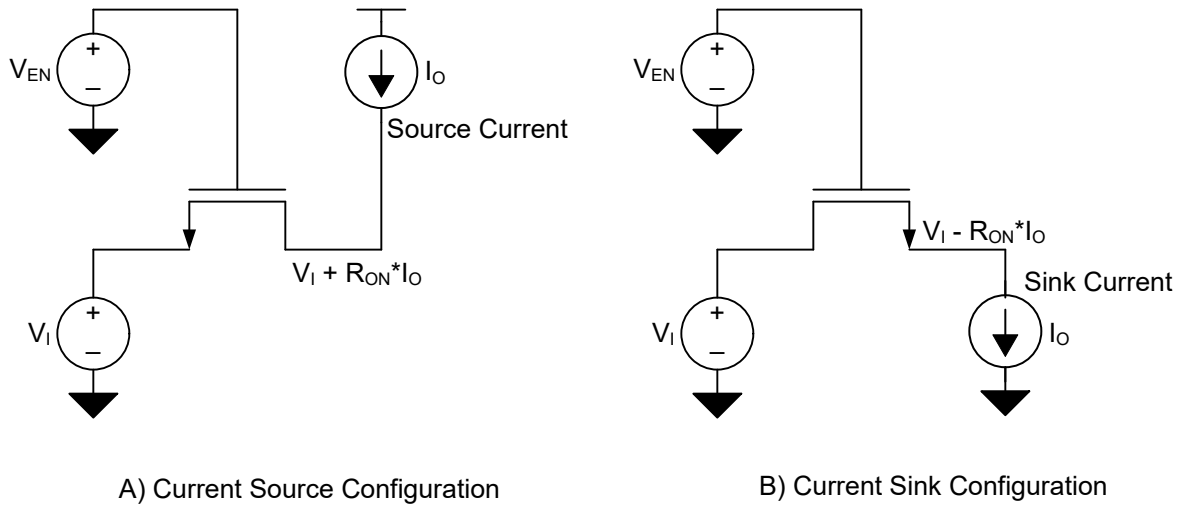

Figure 7-1. Current Source and Current Sink Configurations for Direct  $R_{ON}$  Measurements
(1) All typical values are at TA = 25°C.
(2) Measured by the voltage drop between the SCL1 and SCL2, or SDA1 and SDA2 terminals, at the indicated current through the switch. Minimum ON-state resistance is determined by the lowest voltage of the two terminals.
(3) Measured in current source configuration only. See Figure 7-1
(4) Measured in current sink configuration only. See Figure 7-1